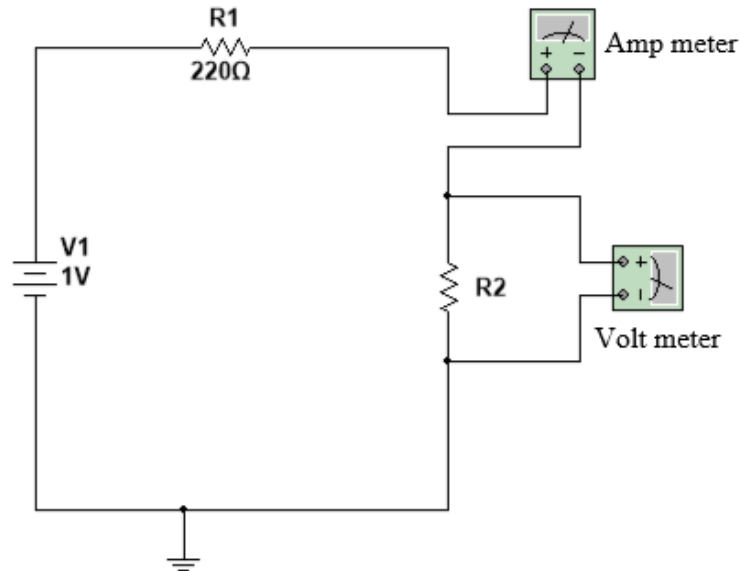

Figure 7: The circuit to be constructed
- 1- Construct the circuit in Fig 7